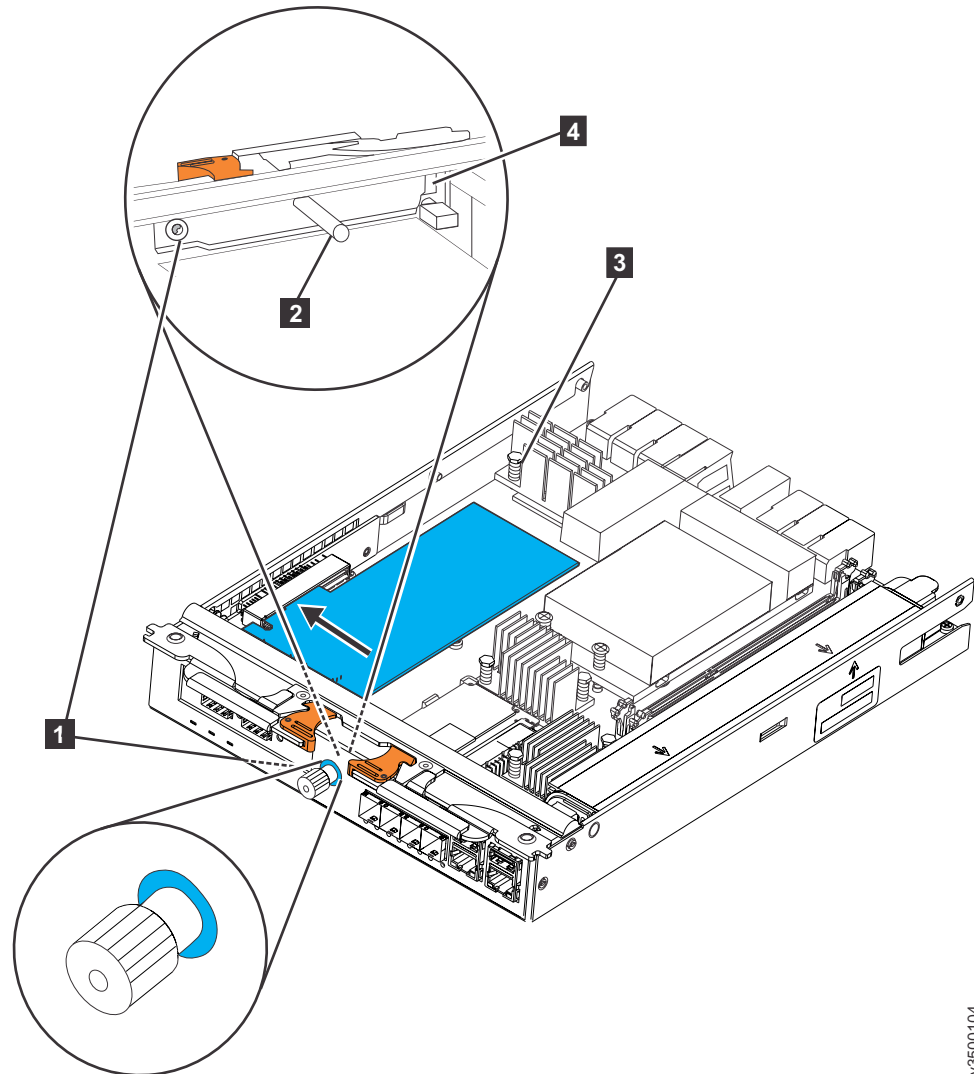

Figure 17. Installing 1 Gbps iSCSI 4-port host interface card
1. Loosen the retaining thumbscrew **1** as shown in Figure 17.
4. Insert the host interface card **3** into the canister as shown in Figure 17 on page 25.